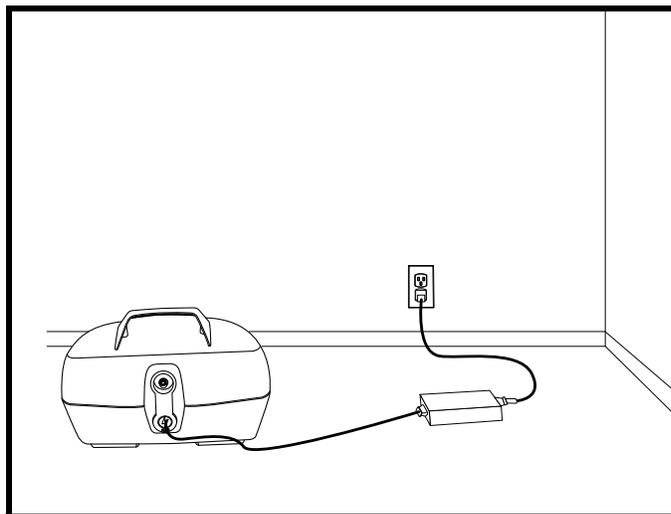

Figure 13. Battery Charging (Battery Pack Removed)
1. Position your Travel Scooter or battery pack close to a standard electrical outlet. **See figure 13.**